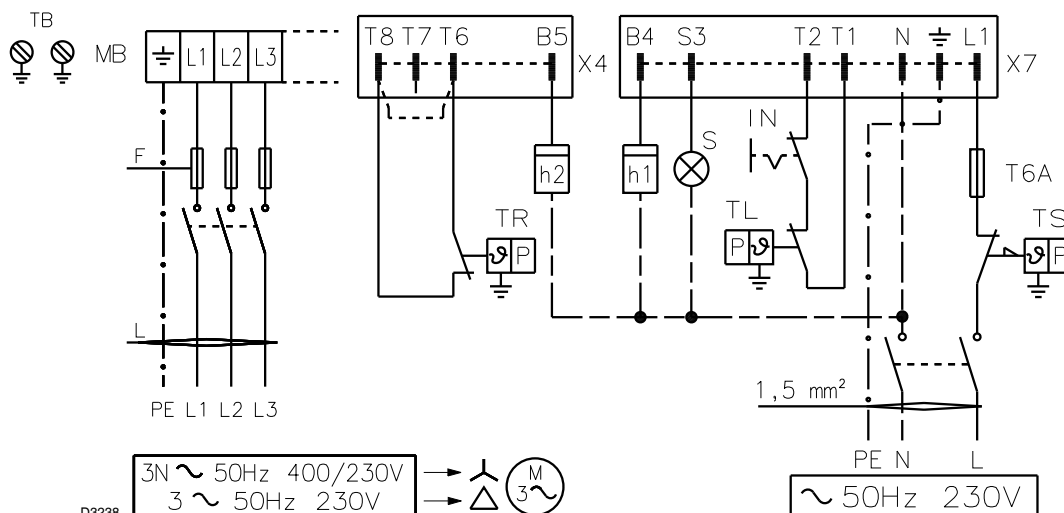

Fig. 24
Fuses and cables cross-section (Fig. 24), see Tab. L.
Alternatively, if single stage operation is required, instead of control device TR install a jumper lead between terminal T8 and T6 (Fig. 24).
Key to layout (Fig. 24)
- The burners are factory set for two-stage operation and must therefore be connected to control device TR. Alternatively, if single stage operation is required, instead of control device TR install a jumper lead between terminals T8 and T6 (Fig. 24).